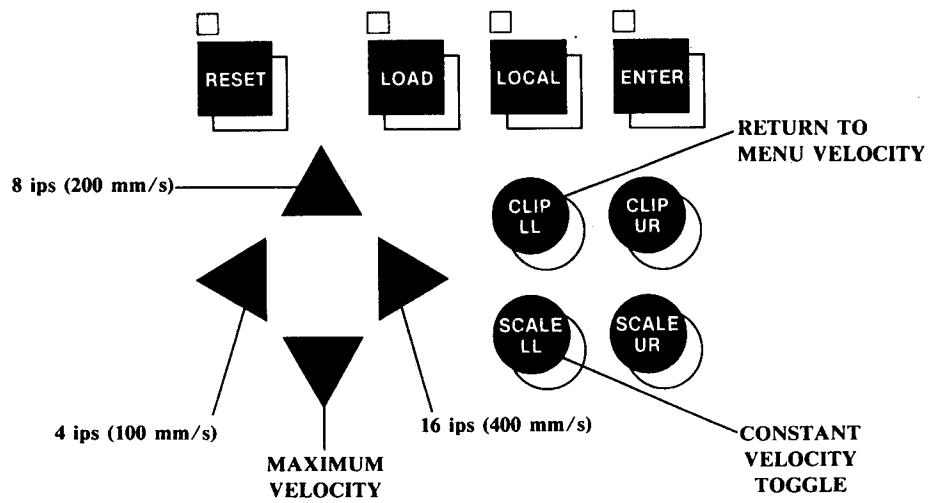

FIGURE 2-5. TEMPORARY CONTROL PANEL ENTRIES
The temporary control entries are shown in Figure 2-5.
3. Press the **◀** key for 4 ips (see Figure 2-5). After the key is pressed, the plotter automatically returns to remote mode and continues processing. (The plotter may have internally pre-processed one or two vector moves at the original velocity before the **ENTER** was pressed in step 2. If so, the plotter will plot those vectors at the original velocity before the 4 ips selection goes into effect.)
4. After the plotter draws the design at 4 ips, press the **ENTER** key again. Plotting can be resumed at menu velocity (12 ips) by pressing the **CLIP LL** key (see Figure 2-5).